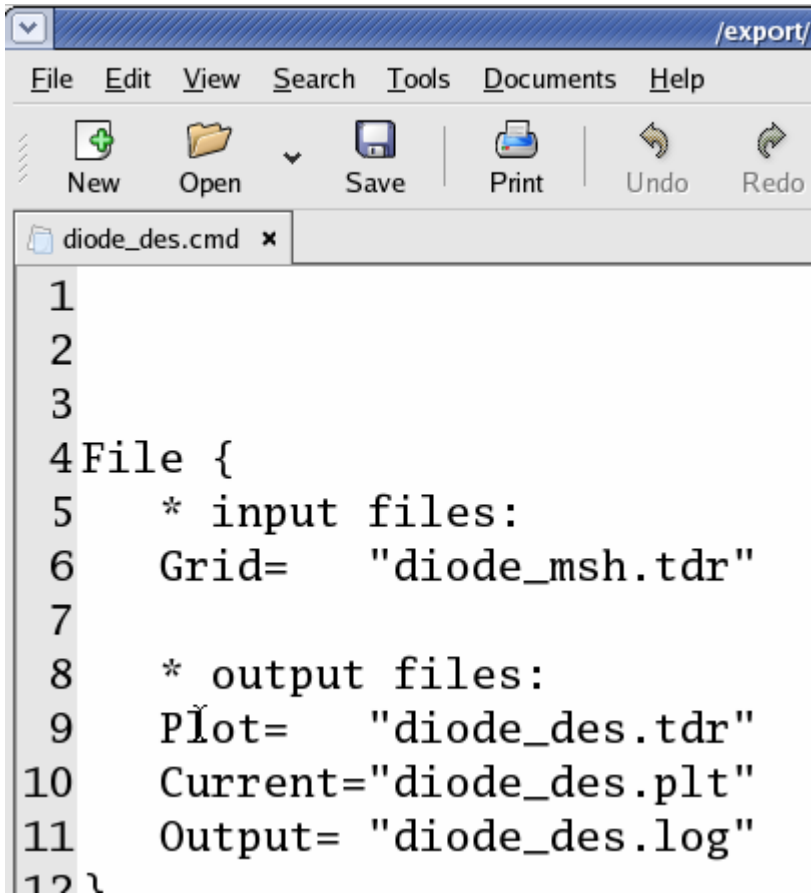

Figure 108: The Sdevcie run deck.
1. Copy the file `diode_des.cmd` from the directory you downloaded. View it with `gedit` (Figure 108).